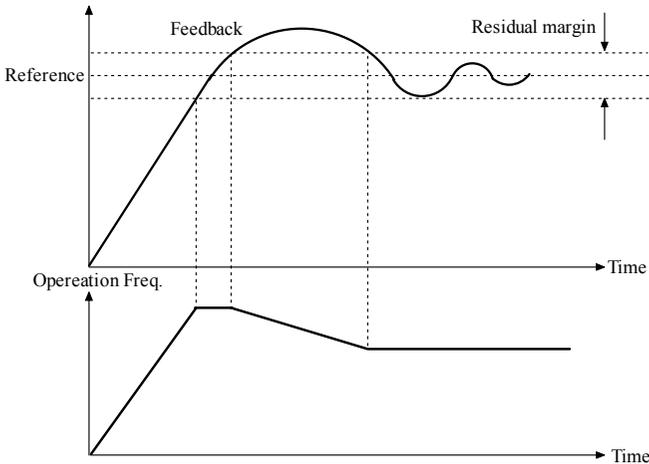

Figure. 5-7-1 Residual margin diagram
- ◆ If the difference between feed and feedback value is smaller than Error margin, PID regulation will stop and the inverter maintains the present output. As shown in Figure. 5-7-1.
- ◆ In the case of analog PID, the error margin sets P7.22 as the absolute value of physical quantity, which should match with the range. In the case of speed PID, the error margin sets P7.22 as the rotating speed. It is showed in Figure 5-7-1: